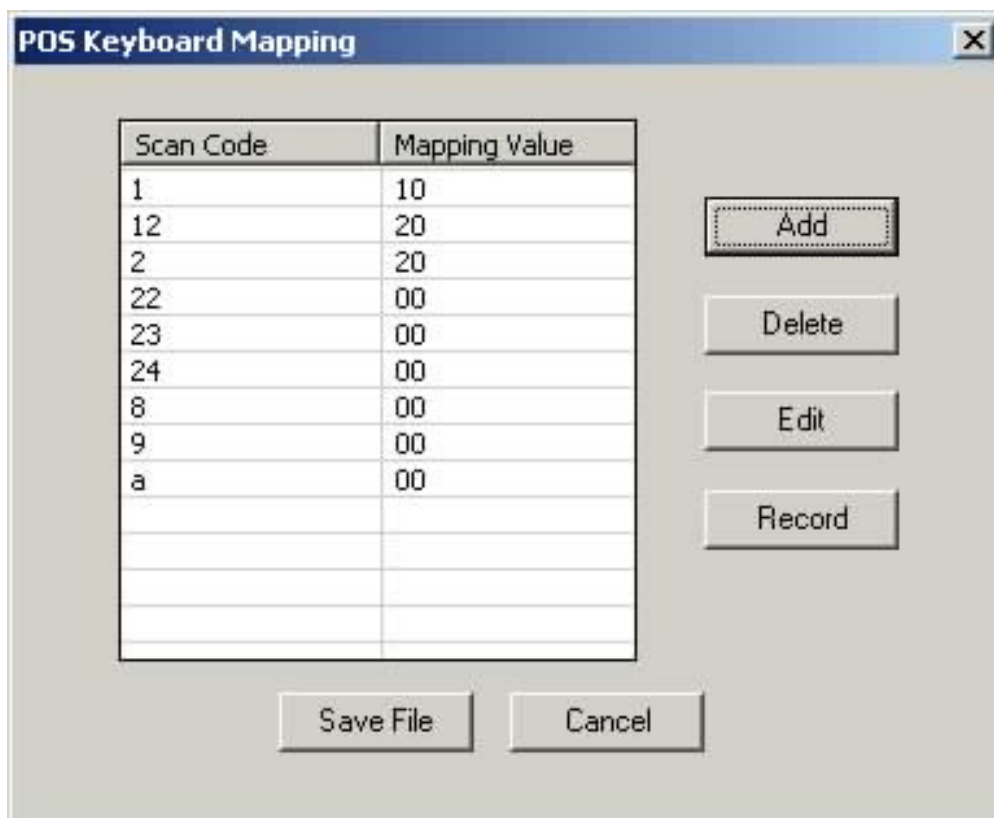

Figure 11. Sample POS keyboard mapping dialog
4. Enter the name of the POS keyboard mapping file. If the file exists, it is read and the values are displayed in the POS Keyboard Mapping window (see Figure 11 on page 42).